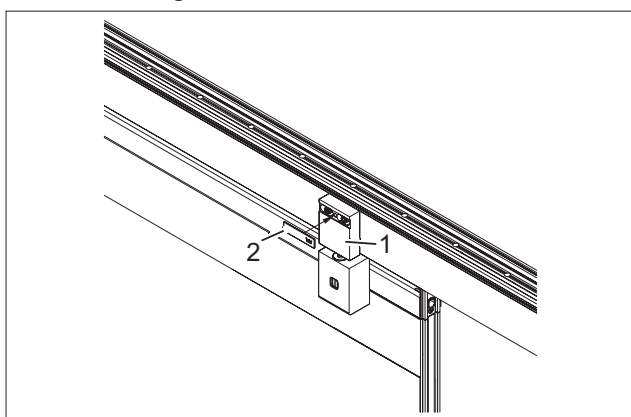

Fig. 41 Fastening the cover plate
5. Place the cover (Fig. 41/2) on the slide bolt top section (Fig. 41/1).